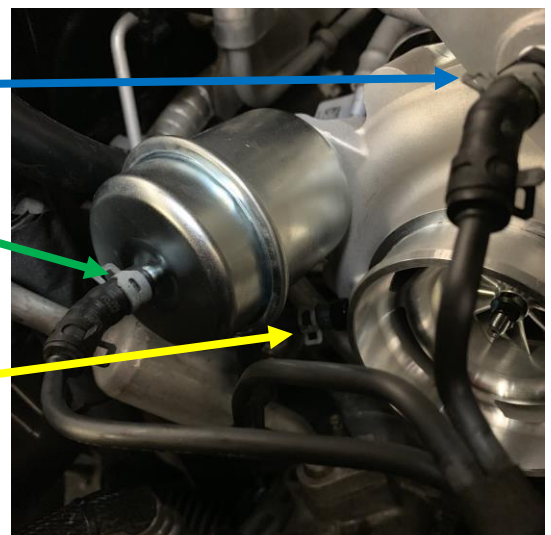

Fig. 26
1. Locate and push boost pressure reference line into compressor fitting. Use nose pliers to secure metal clip into final position. See Fig. 26
2. Locate and push actuator pressure line into actuator canister fitting. Use nose pliers to secure metal clip into final position. See Fig. 26
3. Locate and push solenoid return line into compressor fitting. Use nose pliers to secure metal clip into final position. See Fig. 26